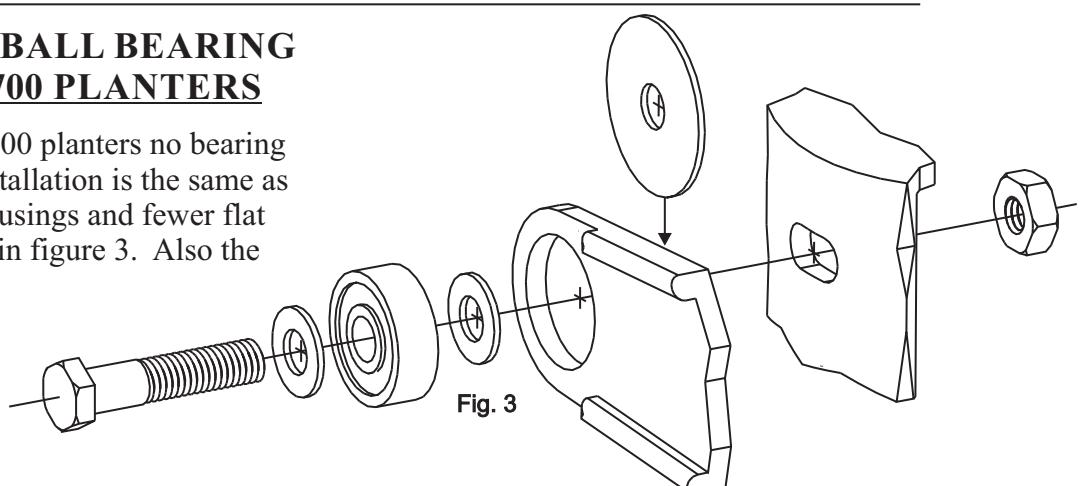

Fig. 3
If this kit is used on new 1700 planters no bearing housing (A) is required. Installation is the same as above except no bearing housings and fewer flat washers are used as shown in figure 3. Also the capscrew is shorter.